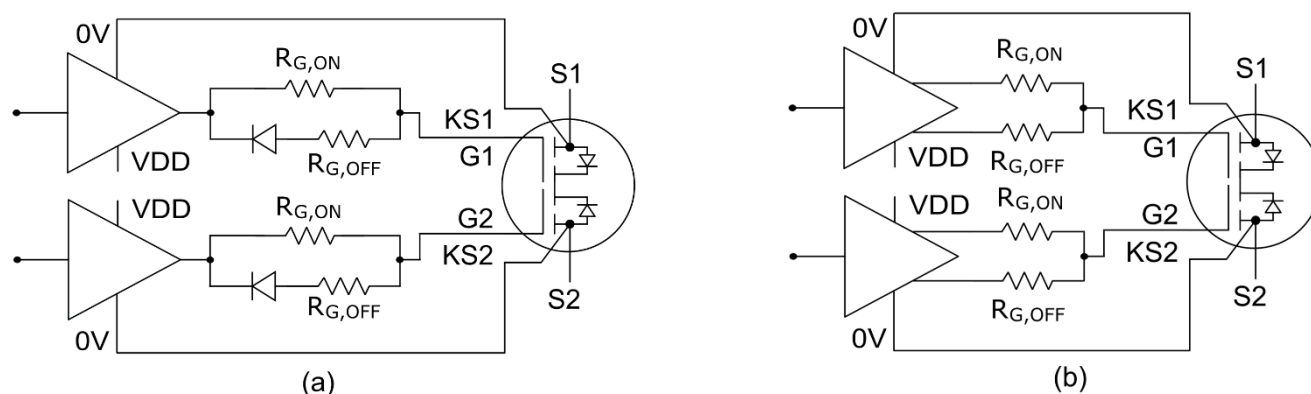

Figure 2. Standard Gate Drive for Cascode BDS GaN
Figure 2 shows two common implementations:
- Figure 2(a) shows a configuration with a gate driver which provides single-ended output.
- Figure 2(b) shows a configuration with a gate driver which provides separate source and sink outputs.